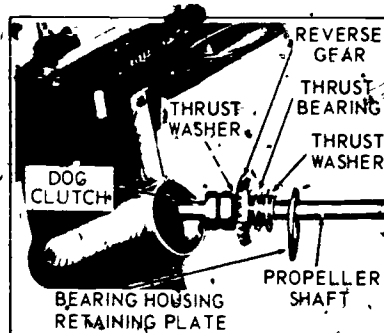

FIGURE 6
- N. Remove propeller shaft assembly (Figure 6)